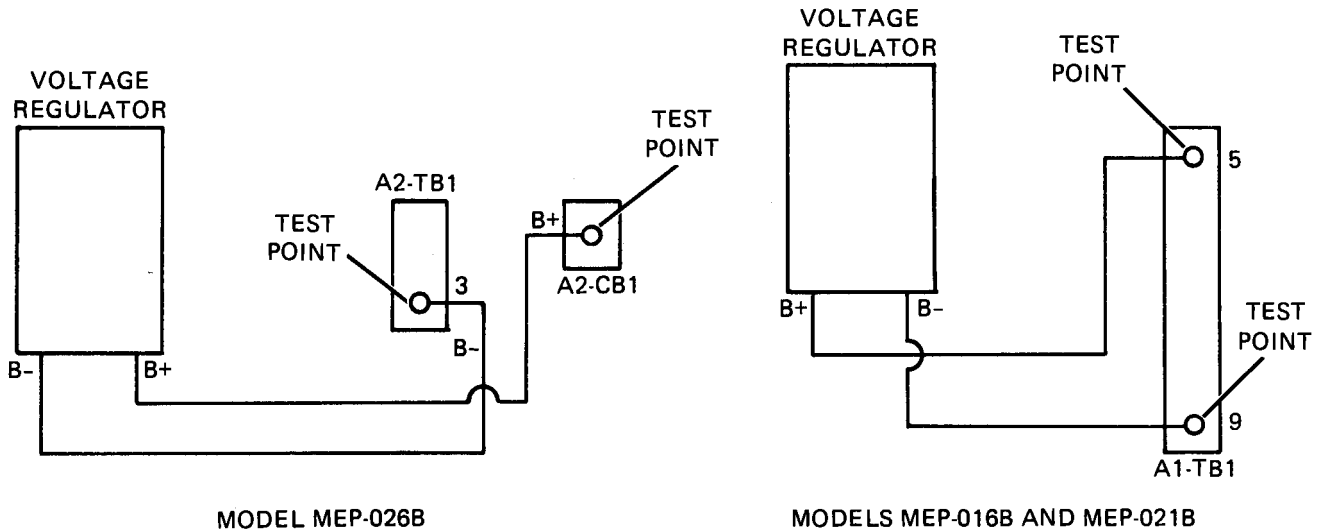

Figure 4-11. Voltage Regulator Test Points.
b. Test. Using a DC Voltmeter, test voltage regulator (see Figure 4-11 for test points). Check the voltage with the unit running. Output voltage from the regulator must be $28.5 \pm .7$ volts DC at 77°F (25°C). If voltage is not within specifications, the voltage regulator must be replaced.